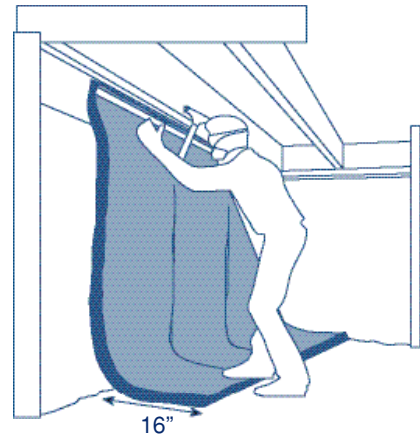

Figure 15: Nail long pieces of insulation to the band joist.
**Step 2:** Using nailing strips (½-inch by 1½-inch lumber), nail 24- or 36-inch widths of blanket insulation to the sill or band joist (Figure 15).